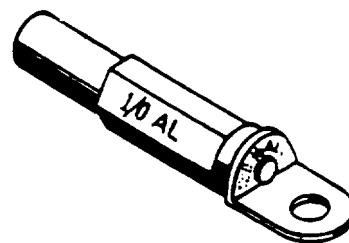

Figure 63. Single Crimp on Aluminum Terminal Lugs
1. Shrink sealing sleeve using heat gun with small termination sleeve reflector (WP 012 00). Shrink middle first and heat towards end until sealant melts and begins to flow out end. Repeat for other end. Allow to cool (Figure 63).